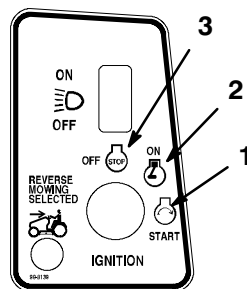

Figure 9
- Turn the ignition key clockwise and hold it in the “START” position (Fig. 9). When the engine starts, release the key.
- Turn the ignition key to “OFF” (Fig. 9).